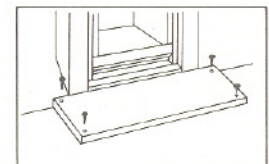

FIG. 3
- ANCHOR** Hearth Extension to floor with appropriate fasteners, being sure fasteners enter solid construction (Fig. 3).